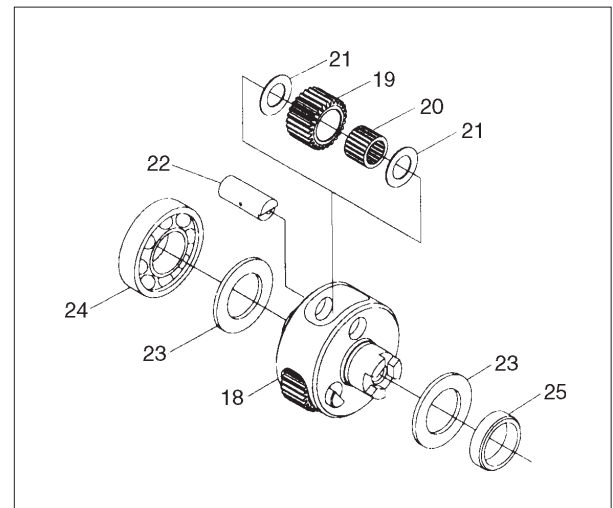

Fig 4.
13) Remove the planet gear frame assembly from the intermediate gear case. Using a sleeve that contacts the outer race of the front gear frame bearing (17), press the planet gear frame shaft seal (16) and the front gear frame bearing (17) from the front end and out of the rear of the intermediate gear case.
14) Remove the rear gear frame bearing (24) from the planet gear frame (18), using a bearing puller and remove the gear shaft retaining washer (23), see fig 4.